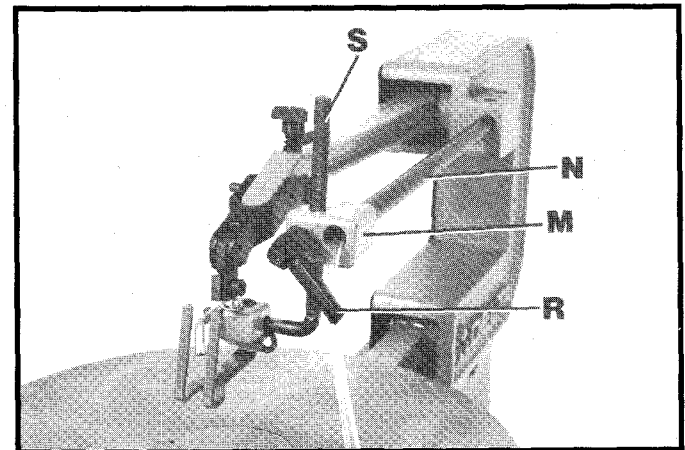

Fig. 10
8. Rotate bracket (M) Fig. 10, back to its original position as shown, and tighten the two screws that fasten bracket (M) to rod (N). These screws were loosened in **STEP 6**. Then tighten lockhandle (R) to hold rod (S) in position.